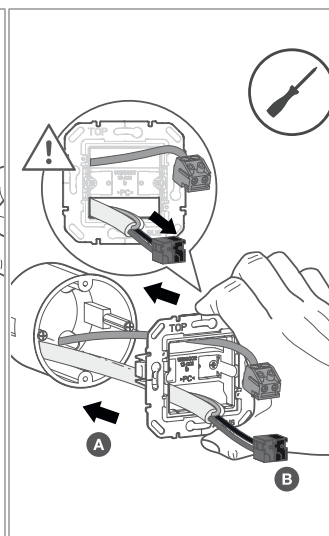
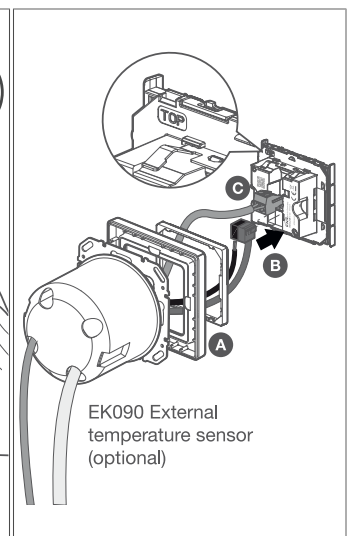

Fig. 9: Optional: Feeding the connection cable for the ext. temperature sensor
Fig. 10: Optional: Connecting the connection cable for the ext. temperature sensor
- Also run the connection cable for the external temperature sensor with the connecting terminal through the frame and connect it to the back of the device. Feed the connection cables for the external temperature sensor above the centre bar (Fig. 9/Fig. 10).